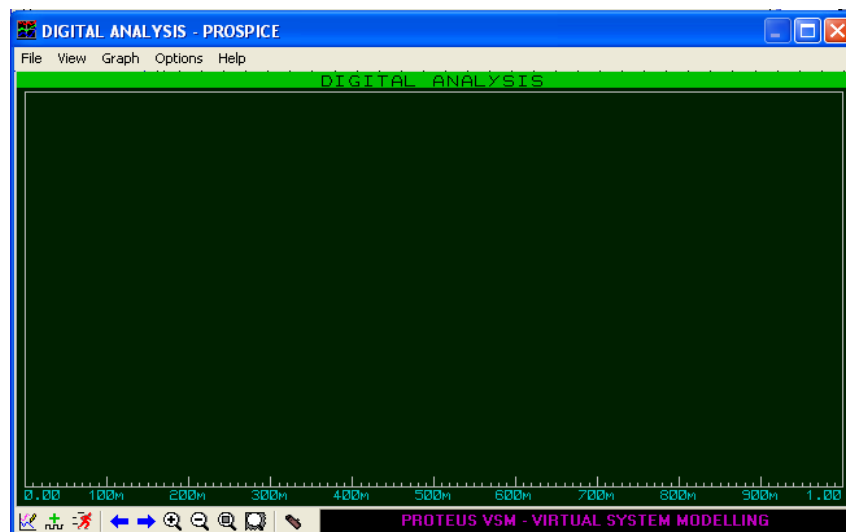

Figure 11
3. Clicking at the word "DIGITAL ANALYSIS" on the screen. New window will appear as the expanded screen as shown in figure 11.